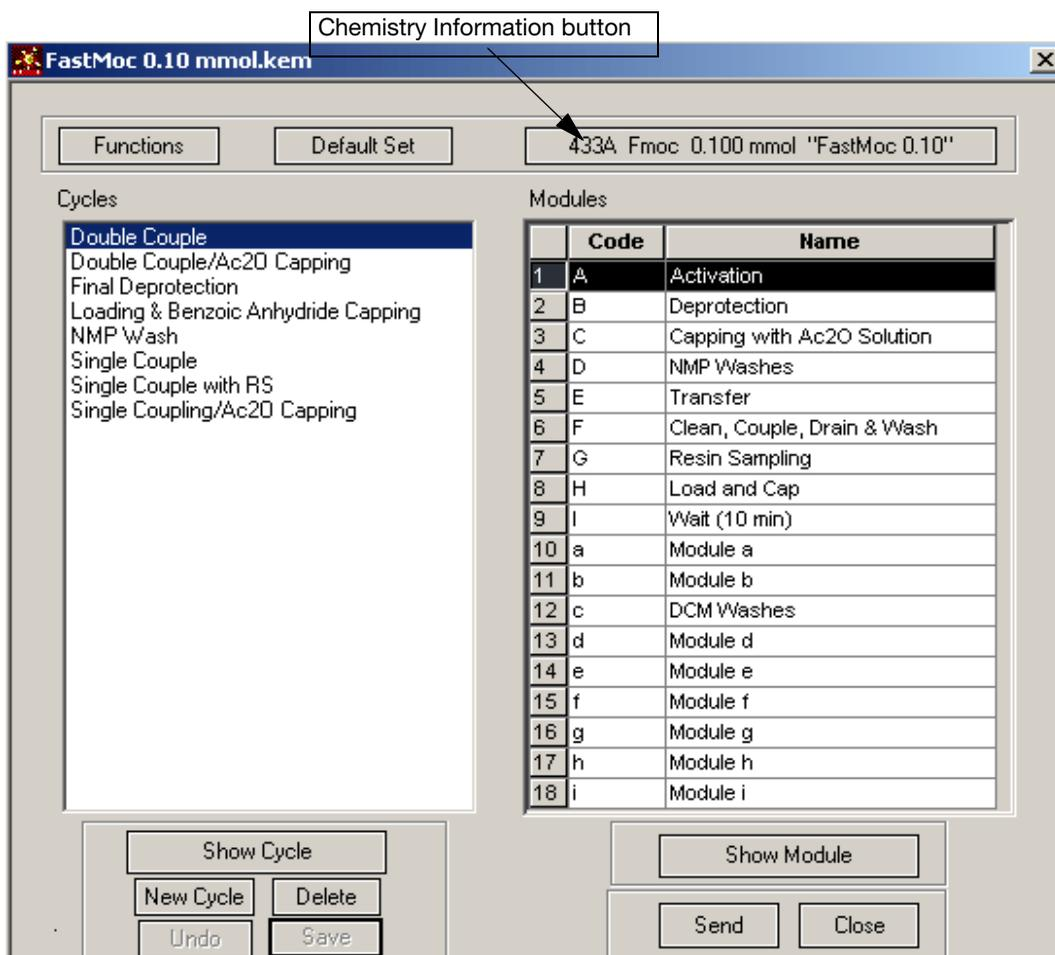

Figure 7-2 Chemistry Screen
The Chemistry screen opens (Figure 7-2).
1. In the Chemistry screen, click the **Chemistry Information** button (Figure 7-2).